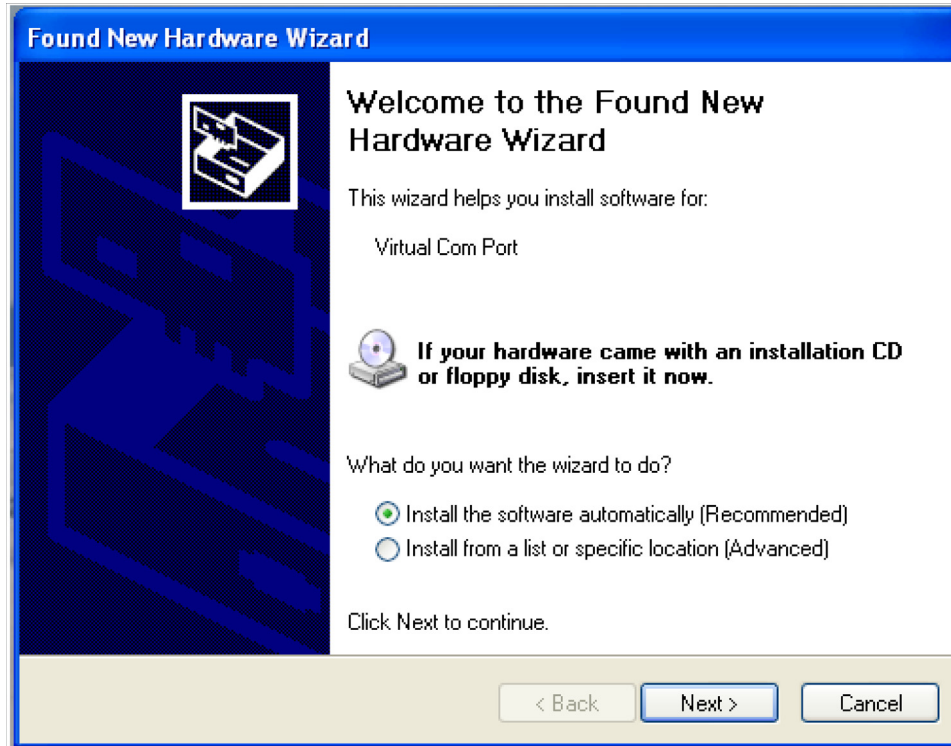

Figure 20-3. Found New Hardware Window
1. Turn on the board and ensure that the USB client driver is CDC and then connect with PC. The Found New Hardware window appears as shown in Figure 20-3.